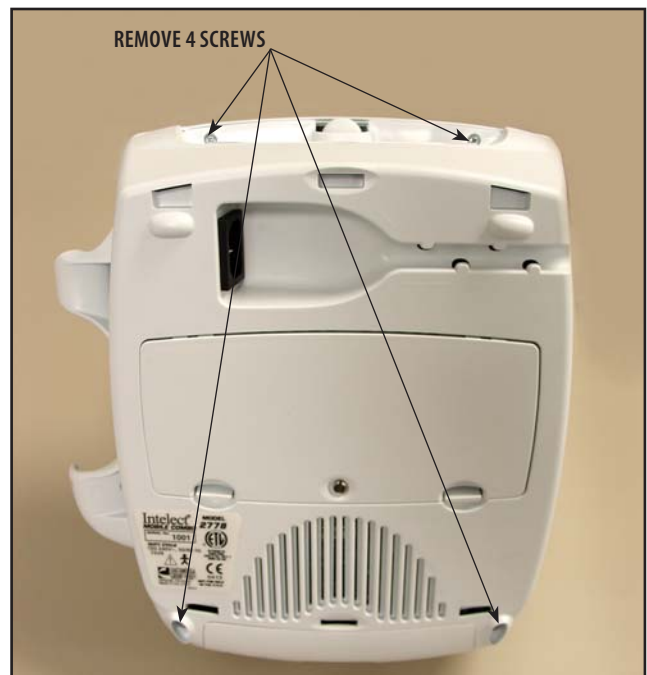

FIGURE 6.2
3. Using a #1 Phillips remove the four mounting screws securing the Top and Bottom together. **See Figure 6.2.**